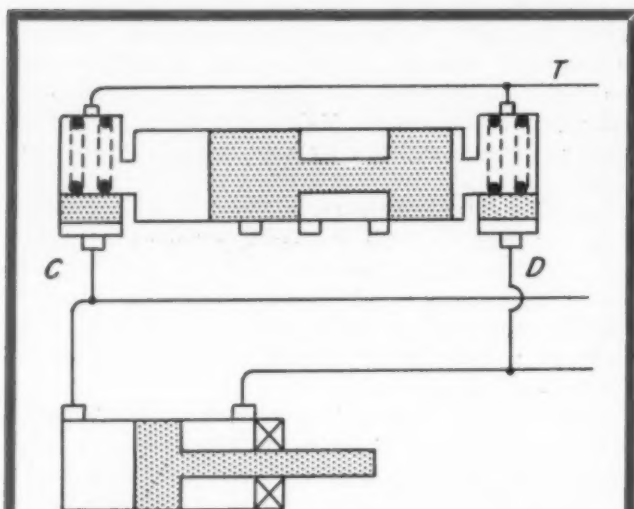

Fig. 113 — Above — Pressure-sequence valve which reverses at completion of forward and reverse movement of a cylinder
A characteristic of the pressure-sequence valves so far described is that they reset themselves as soon as pressure drops, i.e., as soon as an alternative path other than through the valve is open to the pump output, provided of course the resistance of that path is not excessive. A different type of pressure-sequence device is shown in Fig. 113. Here two pilot pressure-sequence valves are used to operate a third valve of
1. The pressure-sequence valve of Fig. 113, the flow-operated valve of Fig. 115, and also stay-put me-
2. Selectors operated by pilot valves (of the type indicated in item 2 preceding) at the rate of two pilot valves per cylinder, except for the last one in the cycle which need only have one. Selectors must be of the stay-put type. Alternatively, selectors can be sequence valves of the pressure or flow-operated types of *Figs. 113* and *115*, respectively. In this case some toggle device should preferably be added.
3. Selectors operated by pilot valves of the type indicated in item 1 preceding, one only being required for each cylinder. Selectors may be of stay-put or spring-biased type, the latter requiring fewer connections on the pilot valves.
Exactly the same circuit can be used with pressure-sequence valves of the types of *Fig. 113*, or with mechanically operated pilot-sequence valves having stay-put action reversed at each end of the cylinder travel.